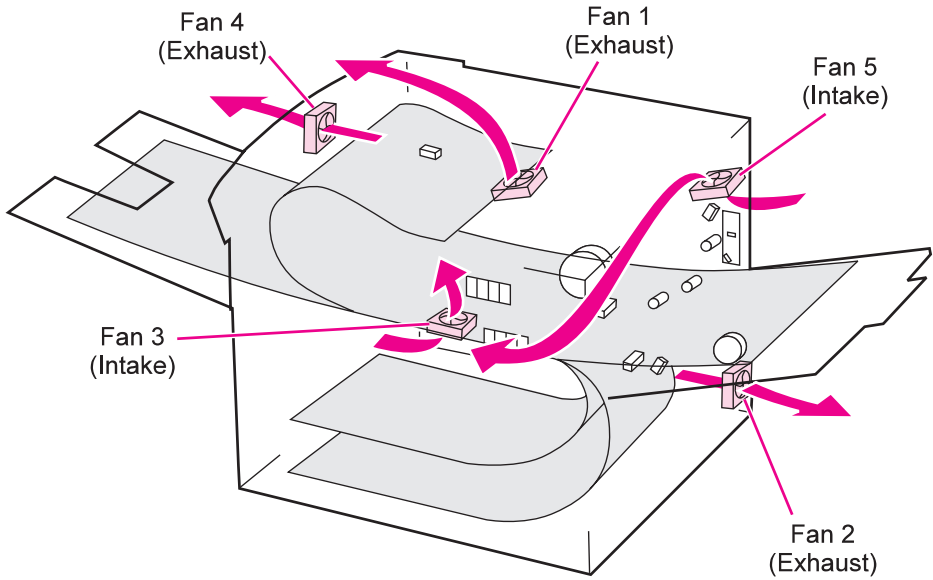

Figure 7-3 Fan Location and Airflow
3. Are the printer's fans on? (See figure 7-3 on page 393 to locate the fans.)	<p>Note: Fan operation is significant since all fans are controlled by the printer's DC Controller PCA. When the printer is in PowerSave mode, the fans are off. Make sure that the printer is not in PowerSave mode. Press Go. Operational fans indicate:</p> <ol style="list-style-type: none">1. AC power is present in the printer.2. DC power supply is functional (both 24V DC and 5V DC are being generated).3. DC Controller PCA's micro-processor is functional.